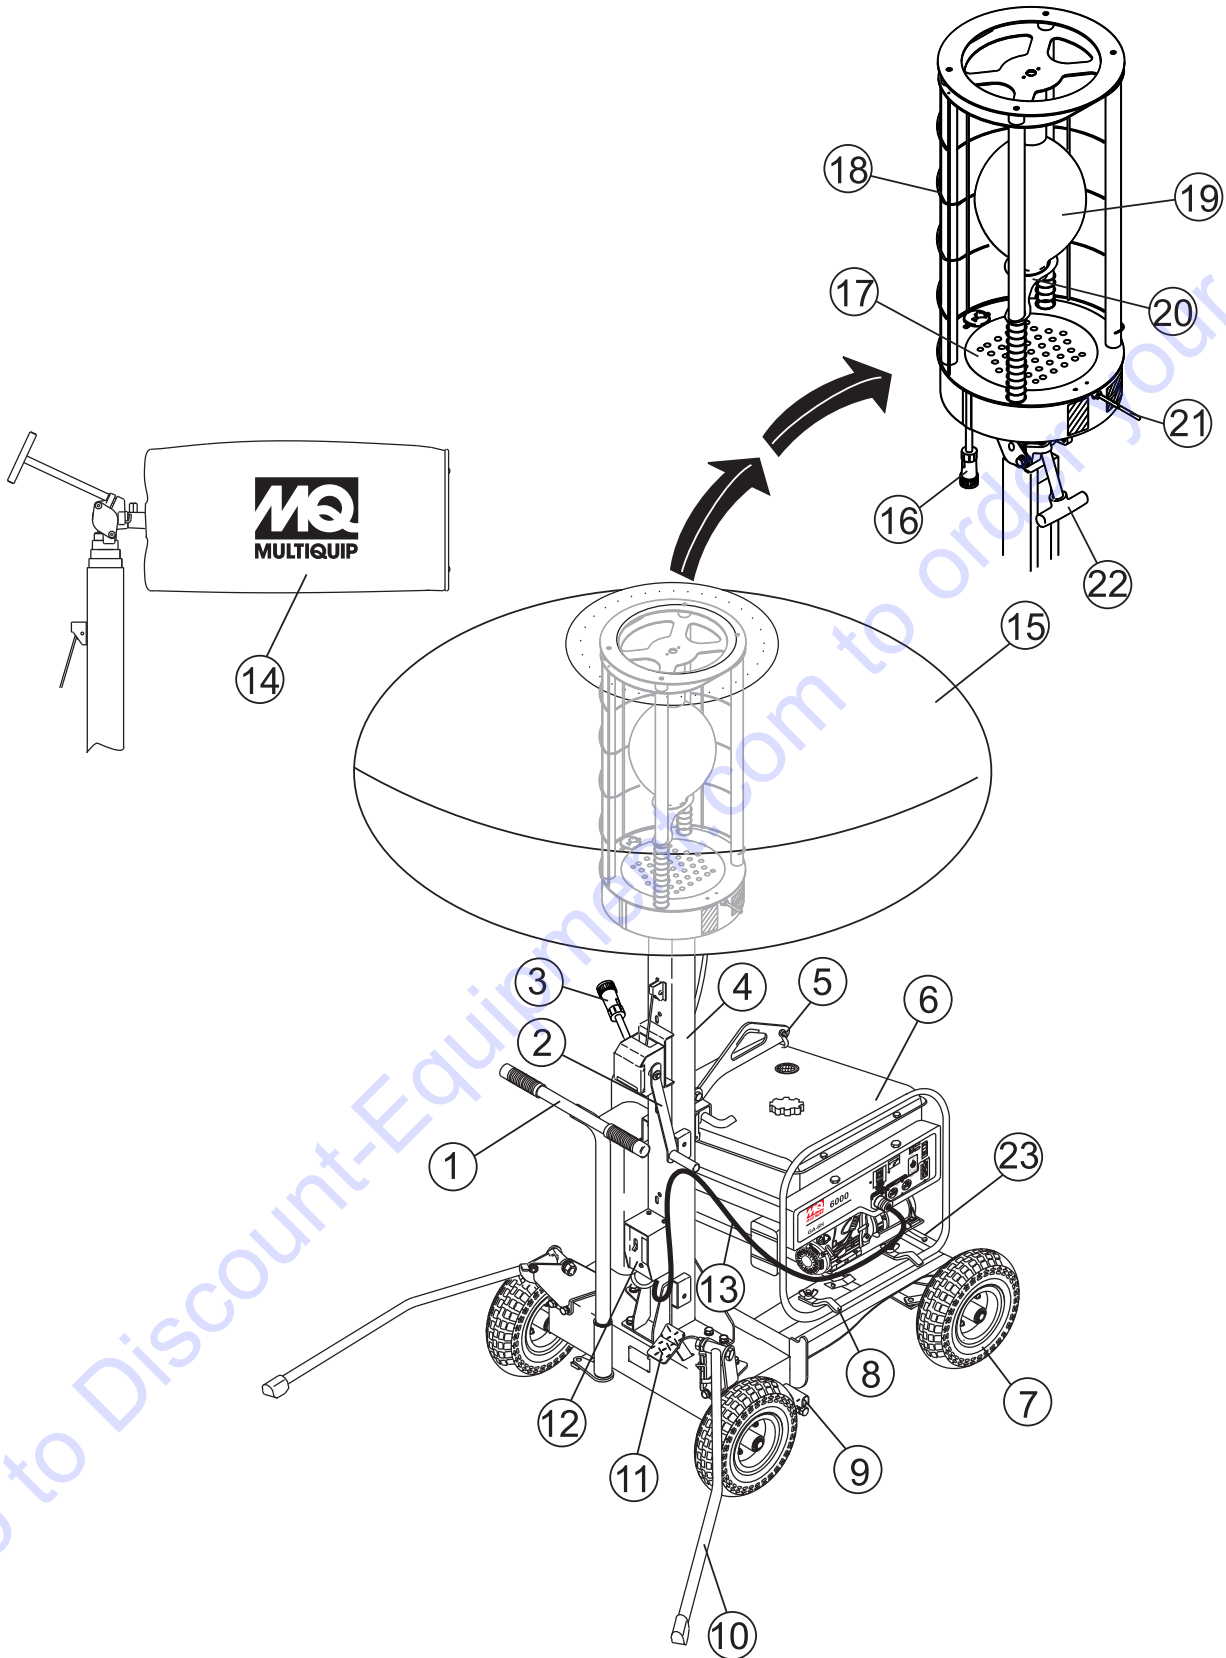

Figure 5. Major Components
Figure 5 shows the location of the controls and components for the GloBug Lighting System. The functions of each control is described below:
4. Using the mechanical winch (Figure 5, item 2), **fully lower** the mast. Turn winch handle counter-clockwise to lower mast.
5. Using the adjustment lever (Figure 5, item 22) place the balloon/lamp assembly in the stow position.